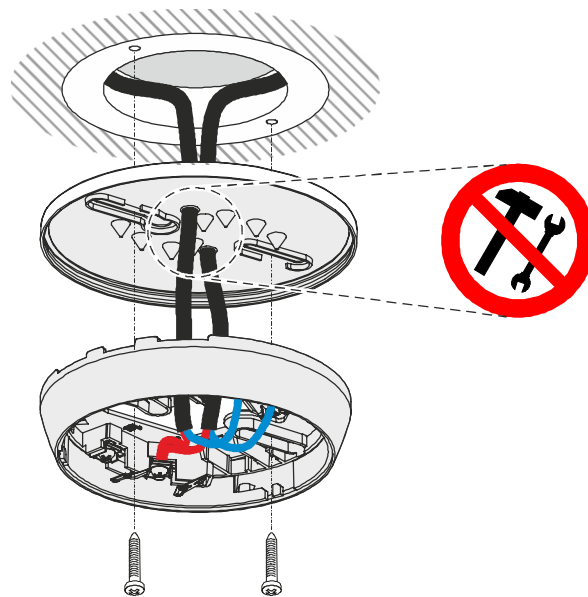

Figure 4: Installing the detector base seal RS720
- EMC-protective cage FDBZ294 (Fig. 4) protects the detector against mechanical damage and electromagnetic fields.
- Fig. 4 Installation of EMC-protective cage FDBZ294